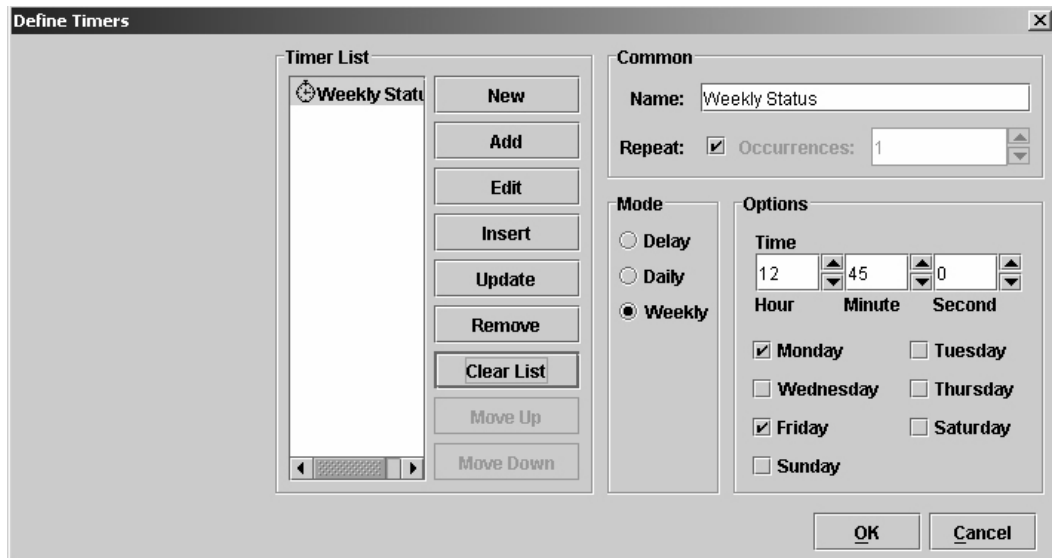

Figure 44. Setting a Weekly Timer
6. Click **Add**. The Weekly Status timer is added to the Timer List. See Figure 44.